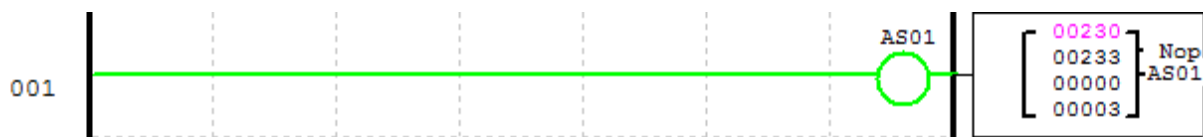

Figure 5
3.0 Using the SG2 Client software, duplicate the program as shown in Figure 5 below.